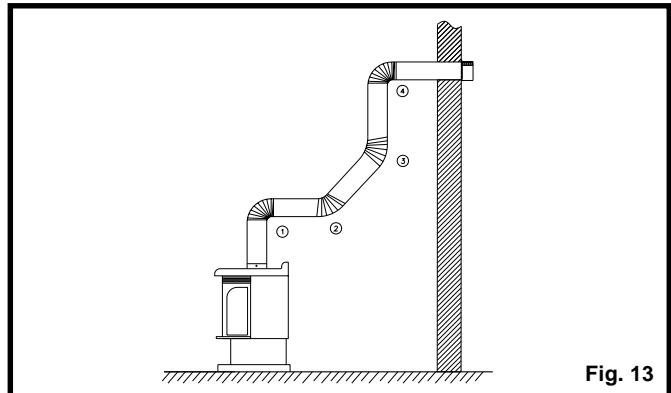

Fig. 13
- The maximum number of 45° elbows permitted per side wall installation is two (2). These elbows can be installed in either the vertical or horizontal run.
- The maximum number of elbow degrees in a system is 270° (Fig. 13).
Example: In Figure 13